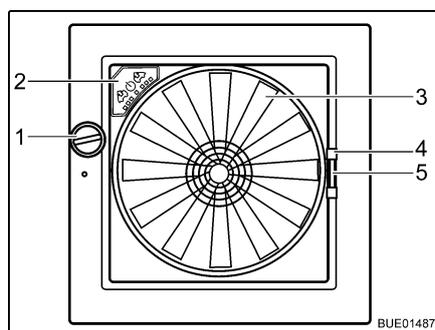

Fig. 91 Omni-Vent skylight
- Opening:** ■ Turn the knob (Fig. 91,1) until the desired opening angle is reached.
- Closing:** ■ Turn the knob (Fig. 91,1) until the skylight is fully closed.
- Closing:** ■ Using the handle (Fig. 91,4) pull the insect screen across to the other side of the frame.
Closing: ■ Press together the handle (Fig. 91,5) of the shade.
Fan If the skylight is open, the interior can be vented and aerated with the 6-speed fan (Fig. 91,3). The fan is operated via the operating panel (Fig. 91,2).